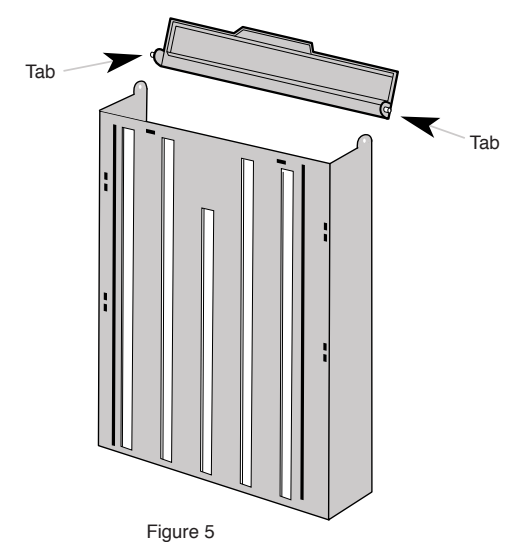

Figure 5
5. To attach the lid (Figure 5), align the lid tabs with the corresponding holes on the faceplate until the lid rests in position.